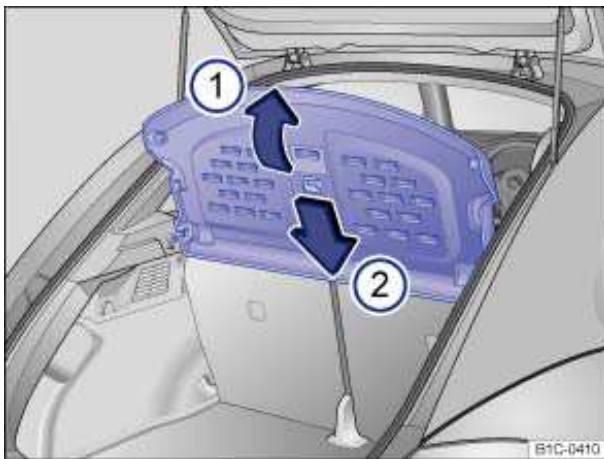

Fig. 78 In the luggage compartment: Installing and removing the luggage compartment cover.
- Fold the luggage compartment cover upward ⇒ fig. 78 (arrow (1)), until the luggage compartment cover releases from the side brackets.